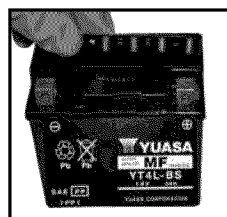

Figure 22
- After 30 minutes the battery is ready for its initial charge. Place cap strip loosely over the filling holes as shown in the picture. (see figure 22)